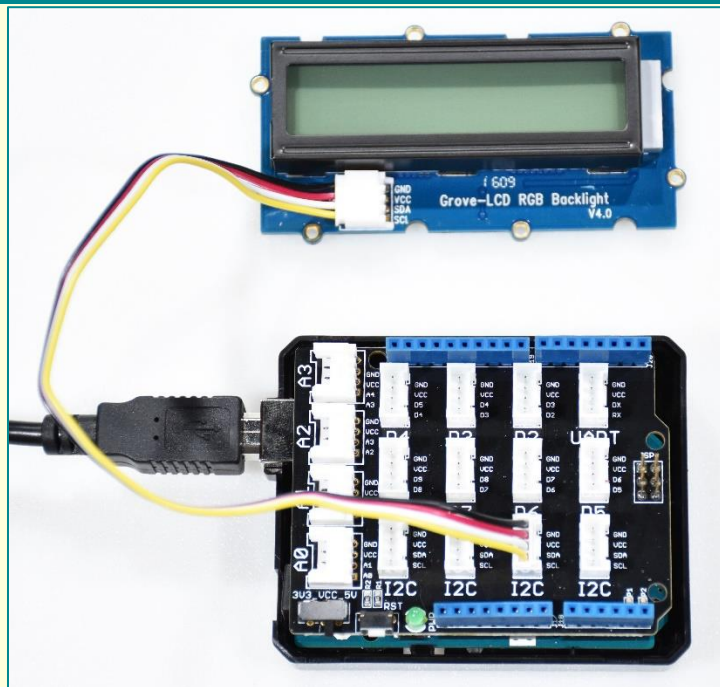

Figure 3-13. Grove LCD connected to one of the I2C sockets.
1. Connect the Grove LCD RGB Backlight to one of the I2C sockets on the Grove Base Shield, as shown in Figure 3-13.